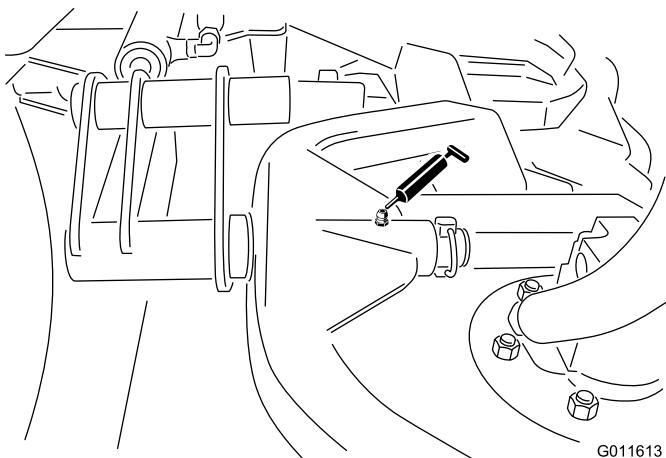

Figure 32
- Cutting unit carrier frame pivot (1 each) (Figure 32)